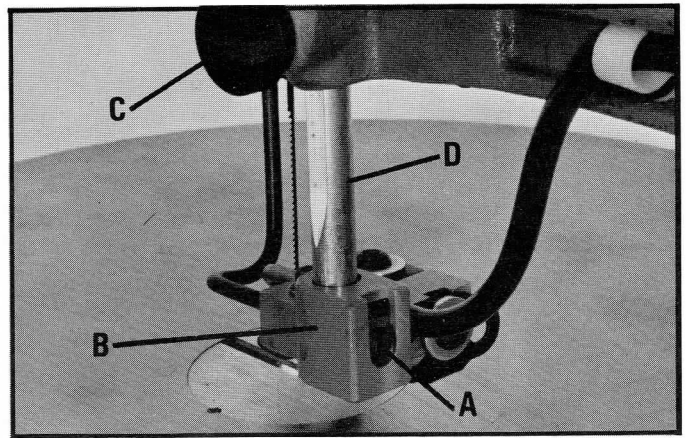

Fig. 30
2. Loosen screw (A) Fig. 30, and remove blade guard assembly (B).
3. Loosen knob (C) Fig. 30, and remove guide post (D).